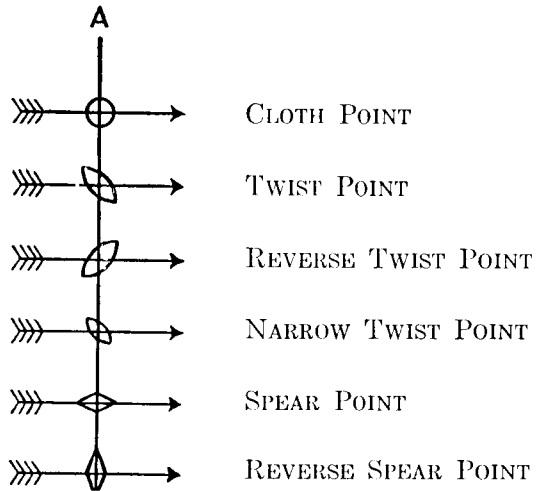

Fig. 1. Transparent view showing the places to oil
Put a drop of oil in each of the oil holes indicated by dotted lines (Fig. 1).
On top of the arm (Fig. 1), near the needle bar, there are four oil holes; through the small one nearest the needle bar oil the needle bar connecting link when the needle bar is at its highest point, turn the balance wheel until the needle bar is at its lowest point and through the second front hole oil the groove in the take-up cam, through the third and fourth holes oil the
Tip the machine back and turn the balance wheel toward you until the feed dog is at its highest position. Loosen feed lifting cam fork screw (F, see Fig. 1), move the rock shaft up or down until the feed dog is at the desired height and retighten the screw.
Tip the machine back, loosen the set screw (X, see Fig. 1), turn screw (Y) to set the feed the desired height and retighten set screw (X).